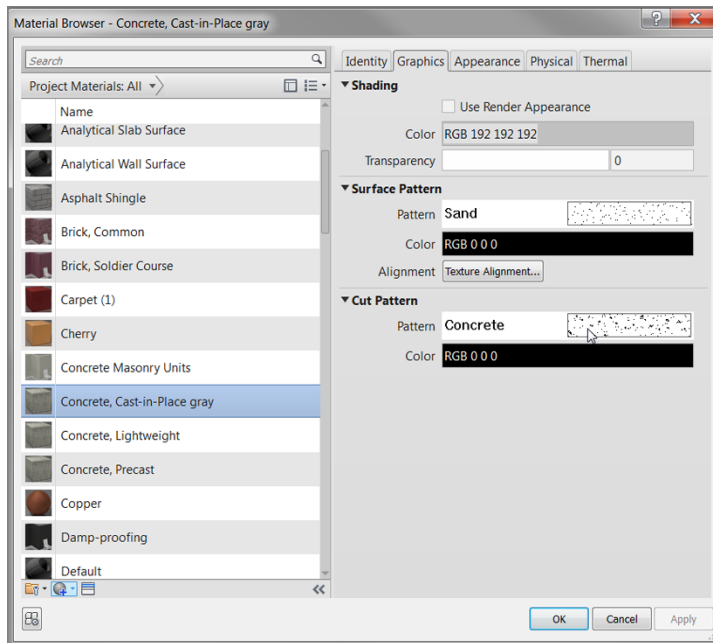

FIGURE 6.7: The Material Browser
4. Make sure the Graphics tab is current, as shown in Figure 6.7. You can display two different hatches: a sand hatch will be visible for floor plans, and a concrete hatch will be visible for sections (see Figure 6.7). These hatches allow a filling region to designate specific materials graphically.